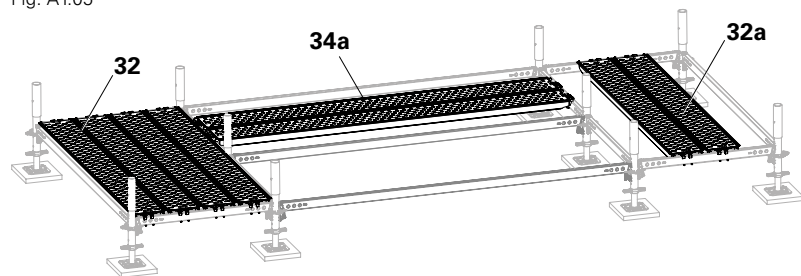

Fig. A1.06
5. Fit Steel Decks UDG-2 (**32a + 34a**) as an assembly aid. (Fig. A1.06)